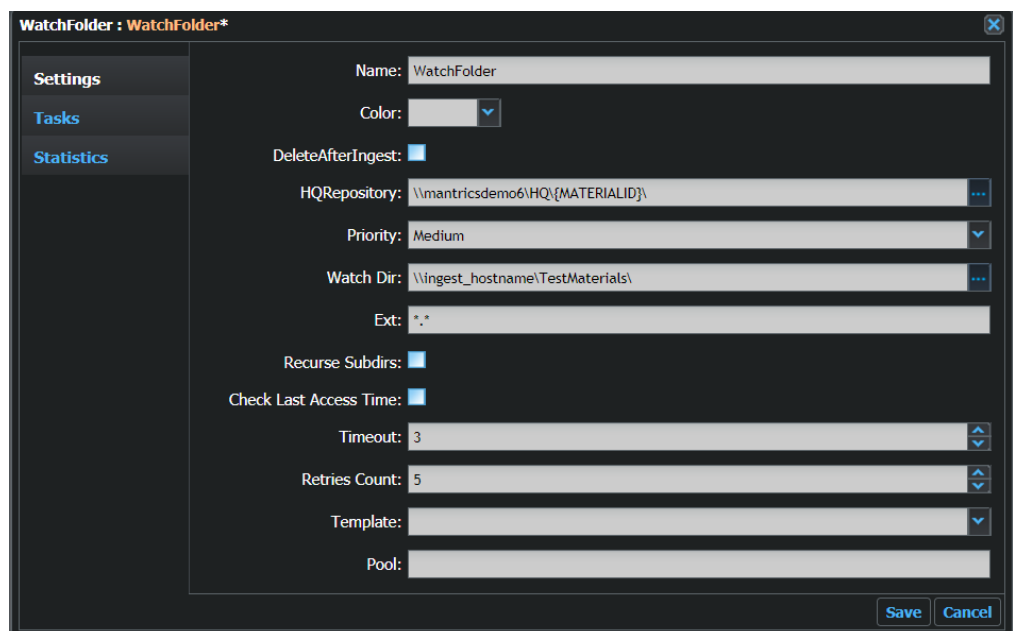

Fig. 3-92: Watchfolder Element Settings
- 3 Double-click the element to modify the Watchfolder settings as shown in Figure 3-92: